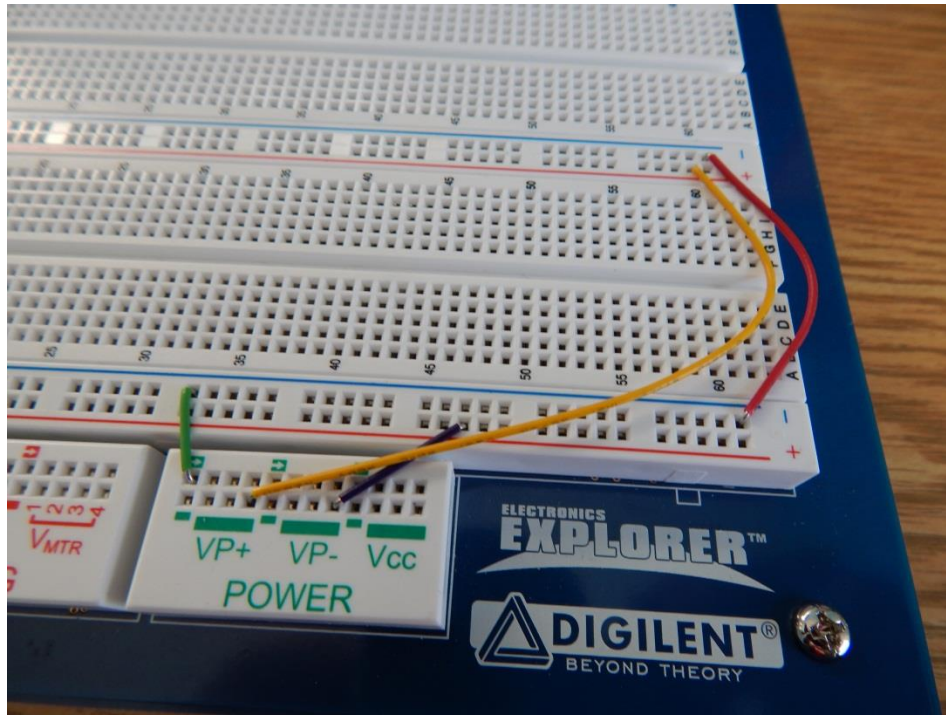

Figure 5. Connect the power at the end of the board so they do not interfere with the transmitter or receiver.
1) The first thing we want to do is set the ground and the two power rails, just as we did for lab 4. First connect one of the grounds (a down arrow) to the blue “rail” and then use another wire to connect the top and bottom blue rails together. It is better to do this somewhere away from the board where the USB and power connectors are. Next connect a wire from VP+ to the top red rail (this will be our V_{CC}) and connect a wire from VP- to the bottom red rail (this will be our $-V_{CC}$). Both V_{CC} and $-V_{CC}$ are just to provide the necessary voltages to our trop amp, *they are not the input signals*. Figure 5 shows how I connected these. Note that we want as much room on our breadboard as possible for the transmitter and receiver .